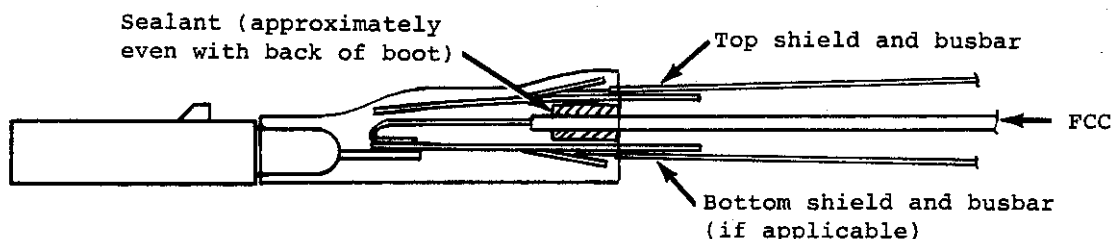

Figure 8-11. Position of Sealant Strip Between Top Shield and FCC
6. Insert a CTA-0055 sealant strip between the FCC and the top shield, and position it as shown in Figure 8-11.